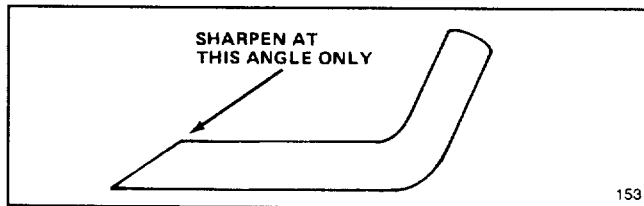

Figure 17
6. SHARPENING BLADE—Using a file, sharpen top side of blade and maintain original cutting angle (Fig. 17). The blade will remain balanced if same amount of material is removed from both cutting edges.